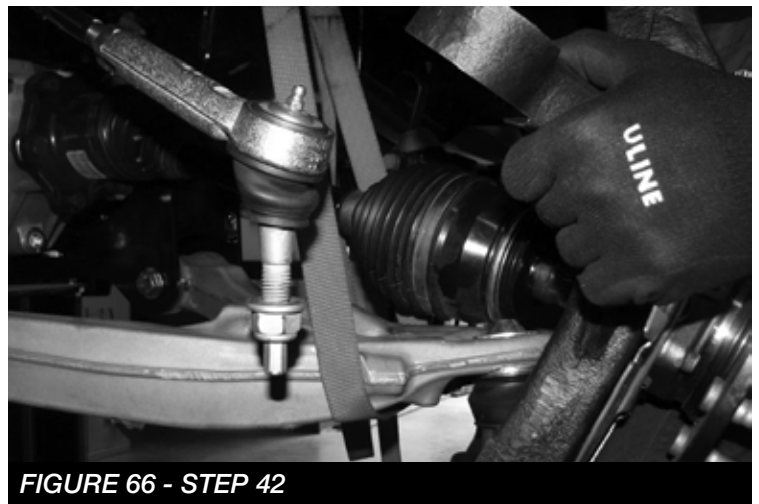
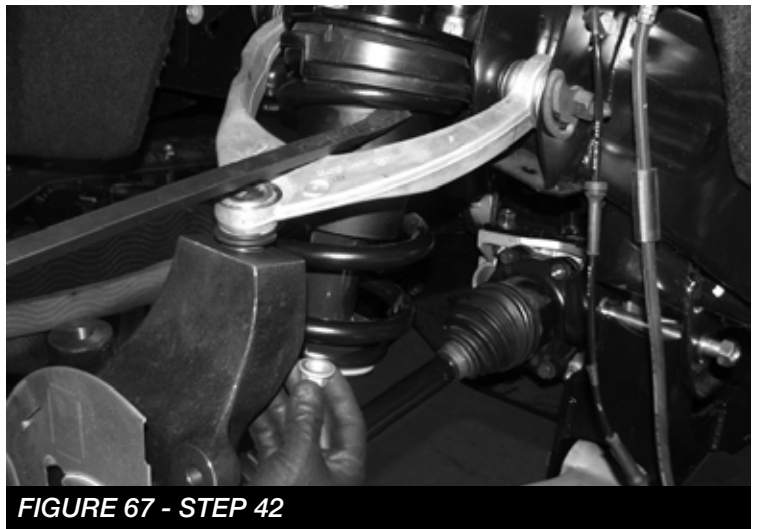

FIGURE 66 - STEP 42
FIGURE 67 - STEP 42
42. Install the new spindle onto the lower control arm ball joint while inserting the axle end through the hub assembly **SEE FIGURE 66** Torque to 83 ft-lbs. Finally, connect the upper control arm to the spindle. **SEE FIGURE 67.** Torque the upper ball joint to 58 ft-lbs, and the lower ball joint to 70 ft-lbs.